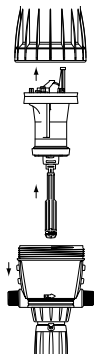

Fig. 17
- Remove the motor piston(**Fig. 17**) by pulling it up.